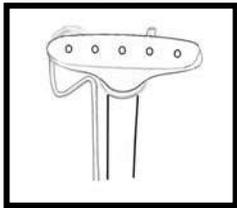

Fig. 7
4. Place the steamer hose with the nozzle end up on the garment hook. (See fig. 7)